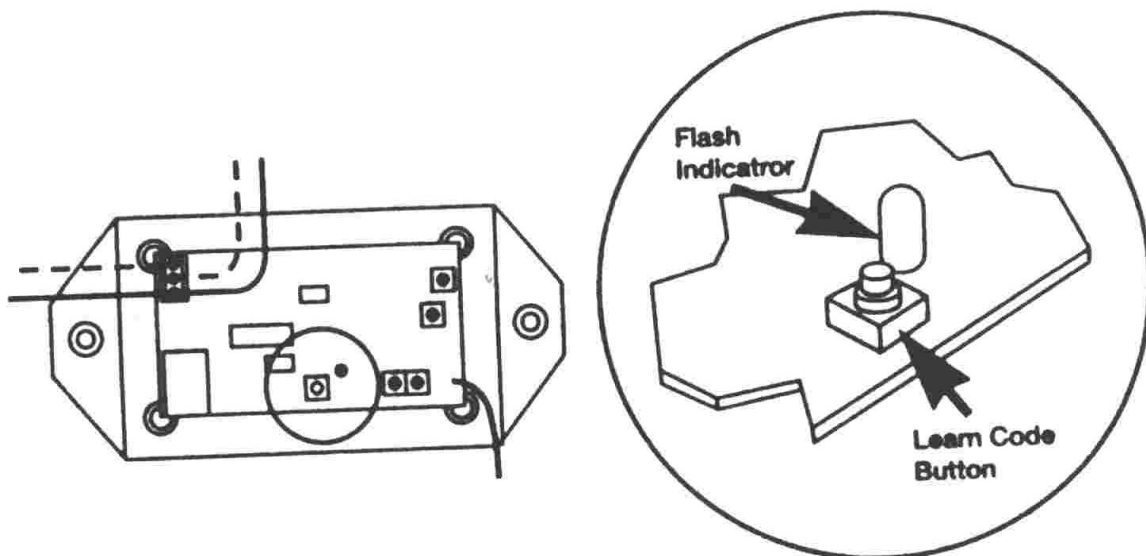

Figure 1
1. LOCATE the Receiver Learn Code Button. (Figure 1)